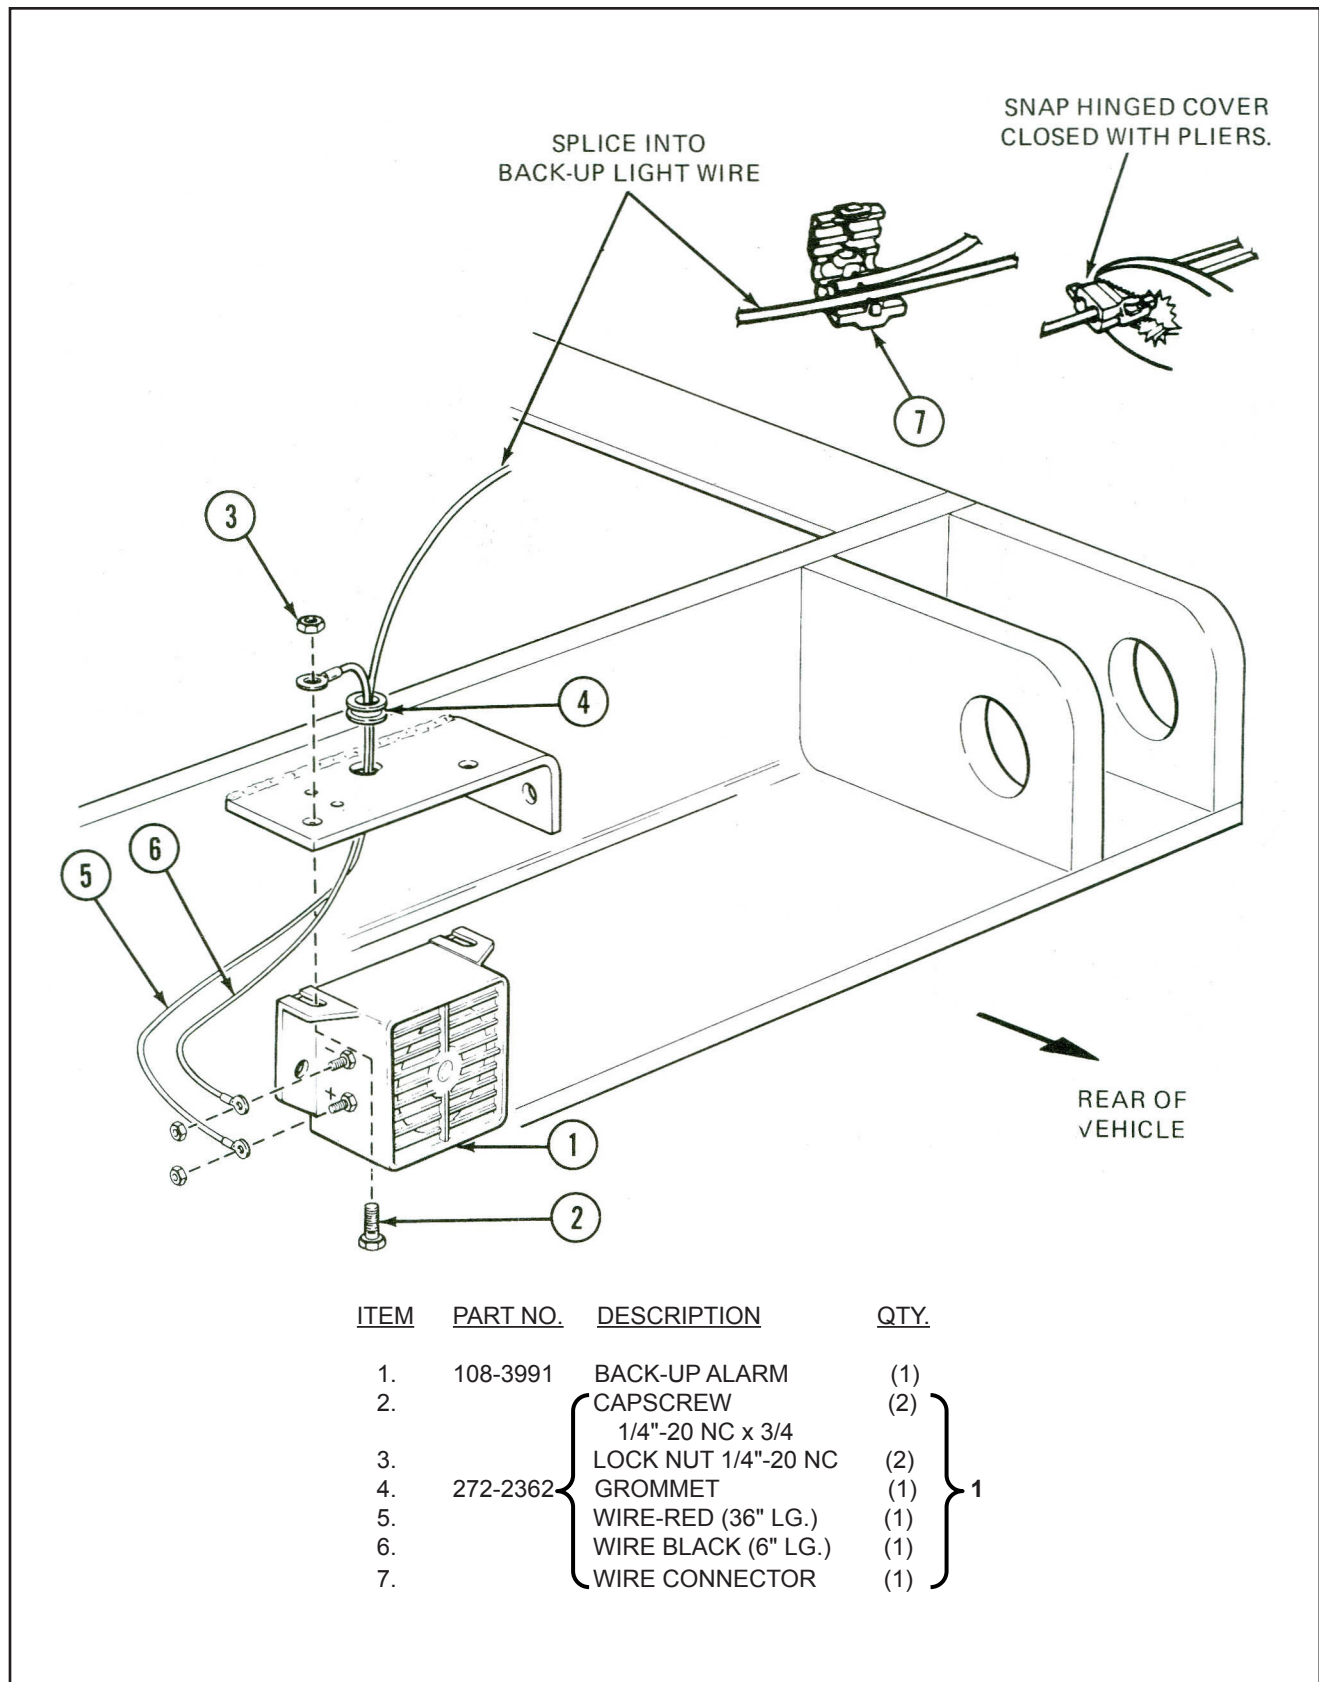

Figure 21. Back-Up Alarm
Install decals according to the instructions below. Refer to figure 21 for decal location. Model and serial numbers are located by manufacture as shown in figure 21.
- 4 **INSTRUCTION DECAL #212A1166** is 3-7/8" x 5-1/2" (98 mm x 140 mm). It must be placed on the dash next to the WARNING and CAUTION decals as shown in figure 21.
- 6 **CAUTION DECAL #212A1131** is 4-3/4" x 5" (121 mm x 127 mm). It must be placed on the front left hand corner of the body as shown in figure 21.
- 7 **CAUTION DECAL #212A1103** is 3-1/2" x 9" (89 mm x 229 mm). It must be placed on the chassis frame (one on each side) as shown in figure 21.